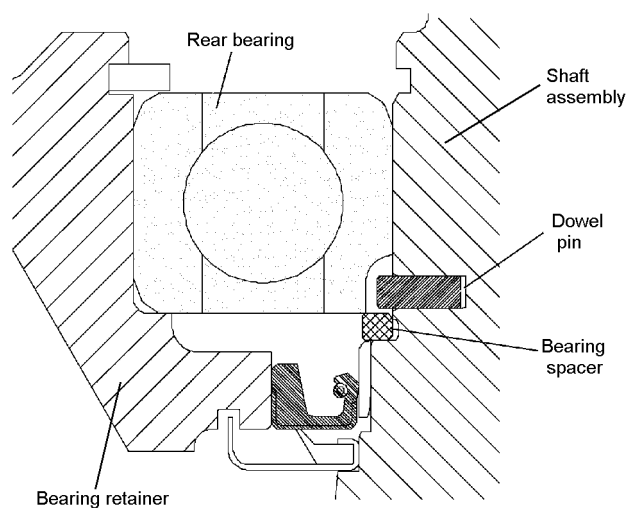

FIGURE 7-61.
21. If a bearing spacer is used instead of a snap ring (as explained in Step 19), place the spacer into position in the groove on shaft assembly (6). Note the location of the spacer in Figure 7-61.